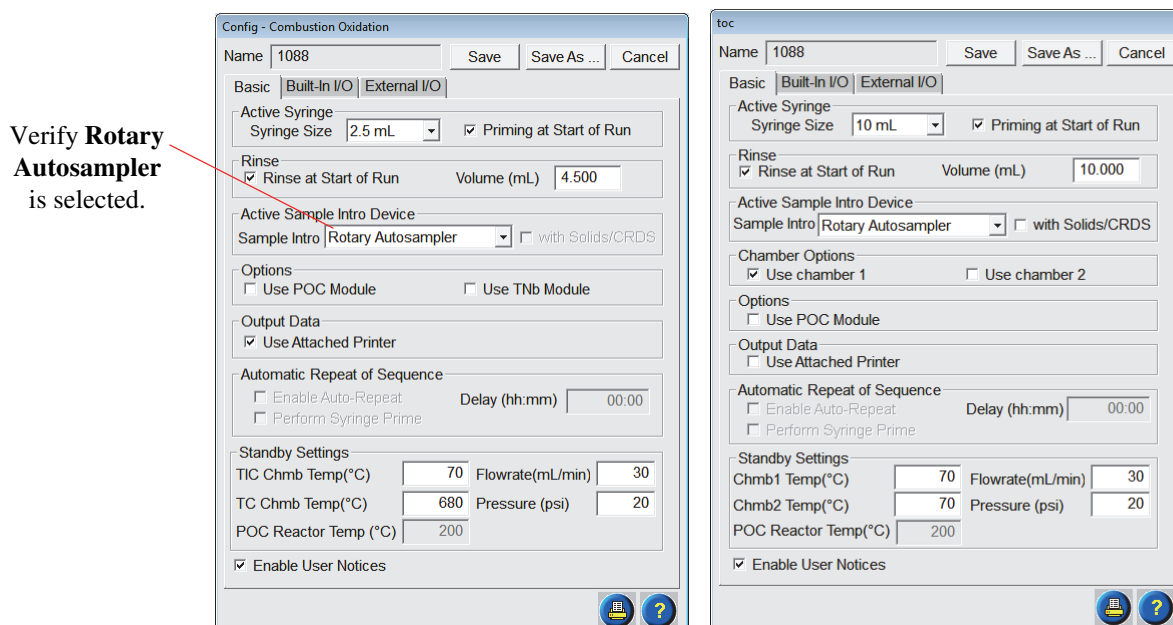

Figure 4.2. Basic tab Aurora 1030C, (left), and Aurora 1030W, (right), rotary autosampler configuration screens
**NOTE:** Verify the Active Sample Intro Device is set to **Rotary Autosampler** (Figure 4.2).